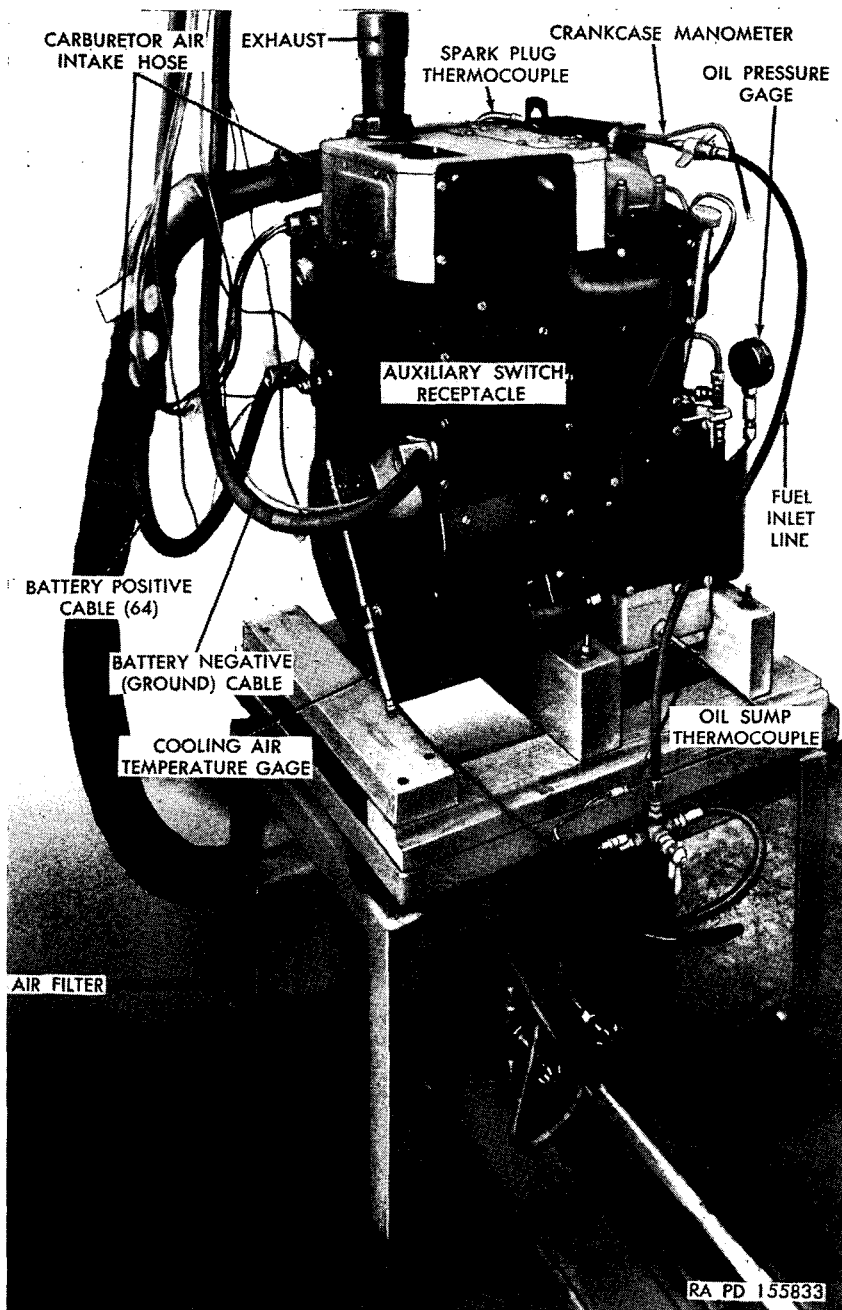

Figure 113. Run-in test set-up—right-front view.
- (a) Connect positive battery cable (cable 64) to positive (+) terminal on rear shroud panel and connect negative battery (ground) cable to negative (—) terminal on rear shroud panel (fig. 113).
- (e) Connect auxiliary control cable from instrument panel to control-switch receptacle at rear of engine (fig. 113).
- (b) Remove one-fourth plug from rocker-arm cover (fig. 76), install fitting, and connect crankcase manometer (fig. 113).
- (d) Remove magnetic plug from crankcase bottom cover and connect oil sump thermocouple (fig. 113).
- (f) Clamp cooling air thermometer to fan impeller (fig. 113).
- (g) Install carburetor air inlet thermometer at the inlet duct of the air filter (fig. 113).